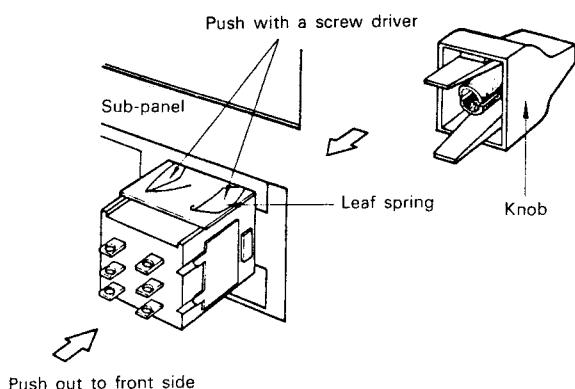

Fig. 18
- 3) Extract the spring plate of the paddle switch up to the subpanel front, while pushing its tip with a screwdriver (refer to **Fig. 18**).
- 4) When the normal paddle switch is inserted into the subpanel from the front, it is fixed to the subpanel by means of the spring plate. To replace the knob of the paddle switch, insert the tip of a thin driver into a gap of the switch and detach the knob by utilizing the principle of the lever and then insert a normal knob (refer to **Fig. 18**).